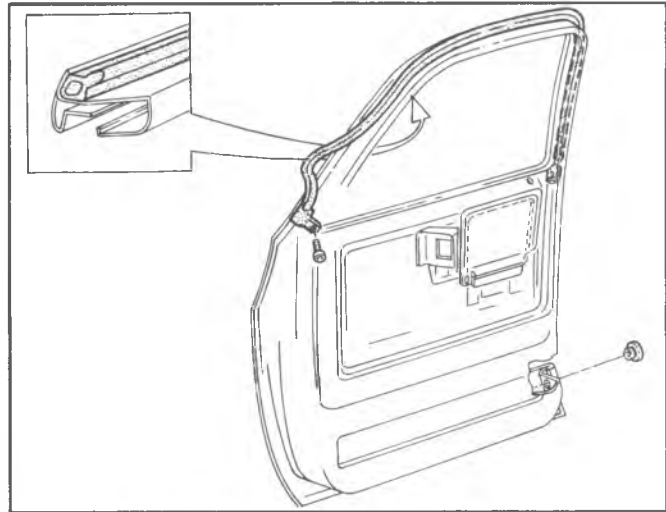

Fig. 2D-41--Door Secondary Seal
**DOOR TO BODY OPENING WEATHERSTRIP-- FIG. 2D-40**